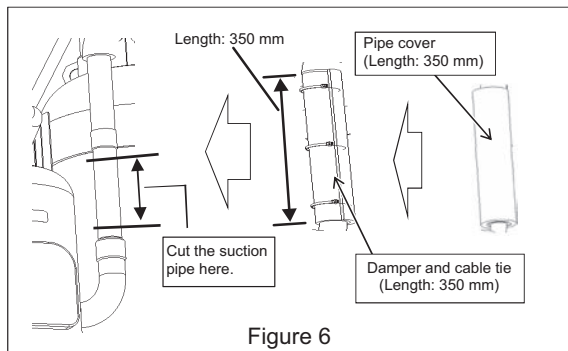

Figure 6
- (6) Remove the pipe cover and the damper, and cut the suction pipe where indicated in Figure 6.
\*When re-placing the pipe cover and the dumper, use the ones with the sizes shown in Figure 6, which are supplied with the replacement compressor.